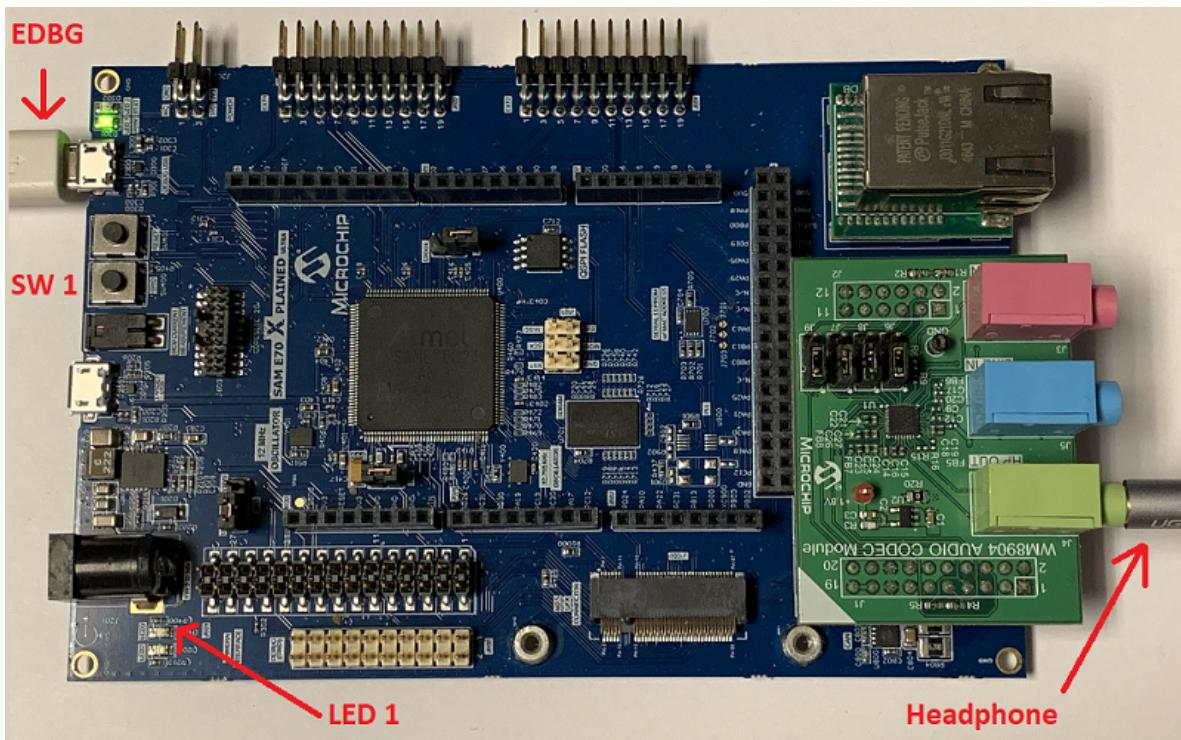

Figure 1: WM8904 Audio Codec Daughter Board on SAM E70 Xplained Ultra board
1. Connect headphones to the HP OUT jack of the AK4954 or WM8904 Audio Codec Daughter Board (see **Figure 1**), or the HEADPHONE jack of the SAM V71 Xplained Ultra board.